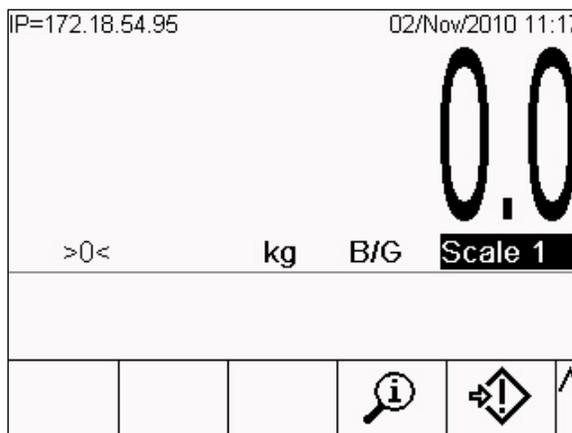

Figure 1-3: IND780 Home Screen Showing Information Recall Softkey
1. From the scale view screen (Figure 1-3), press the INFORMATION RECALL softkey  (typically in the second row of softkeys).